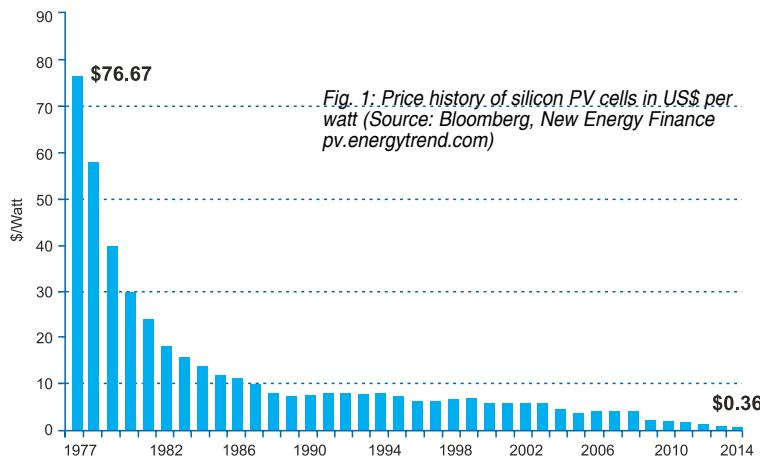

Fig. 1: Price history of silicon PV cells in US\$ per watt (Source: Bloomberg, New Energy Finance pv.energytrend.com)
Solar energy is generated through solar photovoltaic (PV) panels that are installed on rooftops. Major cost involved in any solar system is the cost of these solar panels. In early 1977, per watt cost of these panels was US\$ 76.67 as shown in Fig. 1. Over a period of time, this price dropped considerably to US\$ 0.36 in 2014.
Although the graph in Fig. 1 represents the fall in prices (popularly called Swanson Effect), prices may vary as per the make (brand) of a particular solar panel. Typical price per watt of a good Indian-make solar panel can vary from ₹ 32 to ₹ 37, whereas for a solar panel from Tata Power the price can go up to ₹ 45 per watt. The price is further expected to fall over the next two years.